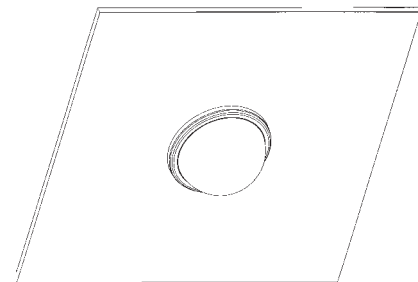

Figure 6
8. Attach the dome/trim ring by lining up the dots on the box and the trim ring. Push on one side of the trim ring near the flat section of the box, then push on the other side of the trim ring until it snaps into place. Listen for a distinct click to ensure ring is securely in place. See **Figure 6**.